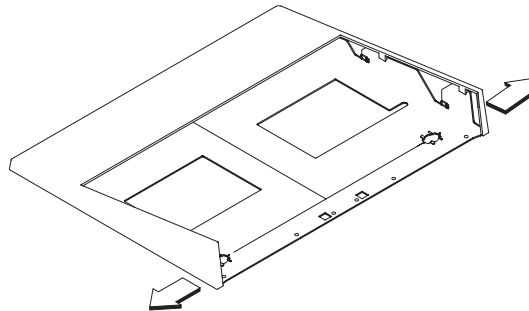

Figure 28. Detaching the fence from the tray
- 1) Spread the rear sides away from the tray as shown in Figure 28.